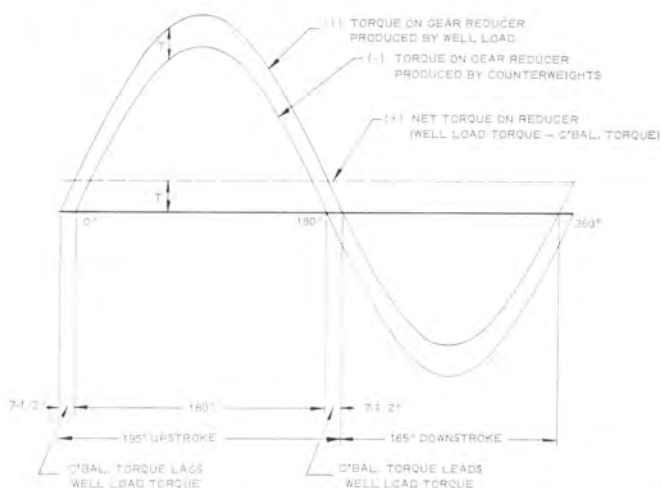

FIGURE 22
The LUFKIN MARK II, due to its more uniform torque demand illustrated in Figure 22 generally permits the use of a smaller prime mover to pump any given well. In the case of a gas engine drive the first costs savings are substantial. With an electric motor drive additional savings may be obtained when electric power charges are based on demand or connected horsepower.
- (1) The cross yoke (equalizer) is shifted forward toward the horsehead instead of placing it directly over the gear reducer. This produces approximately a 195° upstroke and a 165° downstroke. (See Fig. 22)
- (2) The counterbalance weights are offset on the crank. This produces a counterbalance torque which at the beginning of the upstroke "lags" the well load torque approximately 7½°. Similarly, at the beginning of the downstroke this same offset condition produces a counterbalance torque which "leads" the well load torque approximately 7½°. (See Fig. 22)